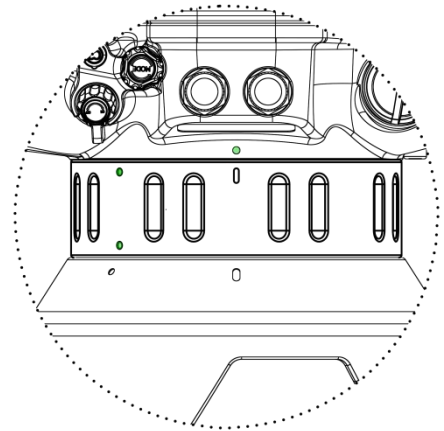

Figure 1
**03** Align the dot sign on the extension ring to the bar sign on the dome port, then press the extension ring onto the dome port till they are fully attached. (As shown in Figure 1)
**02** Rotate the extension ring counterclockwise until the bar sign on the extension ring aligns to the dot sign of the housing. (As shown in Figure 1)